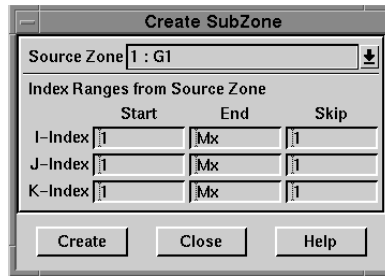

Figure 20-8. The Create SubZone dialog.
1. From the Data menu, choose Create Zone, then choose SubZone. The Create SubZone dialog appears as shown in Figure 20-8.